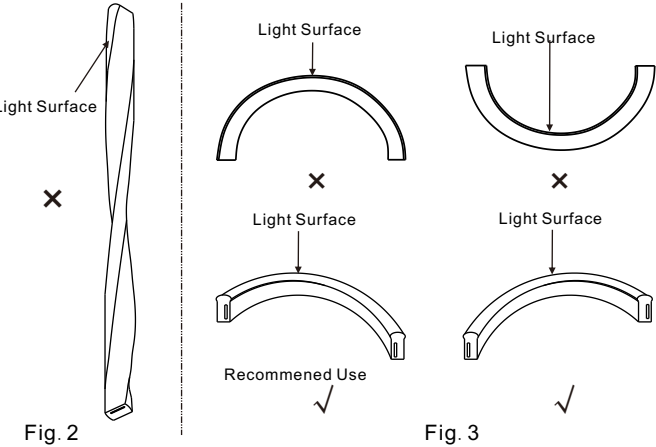

Fig. 4 Hang suspended installation as the picture illustrated is forbidden
10. Do not hang this light in sky as Fig. 4.